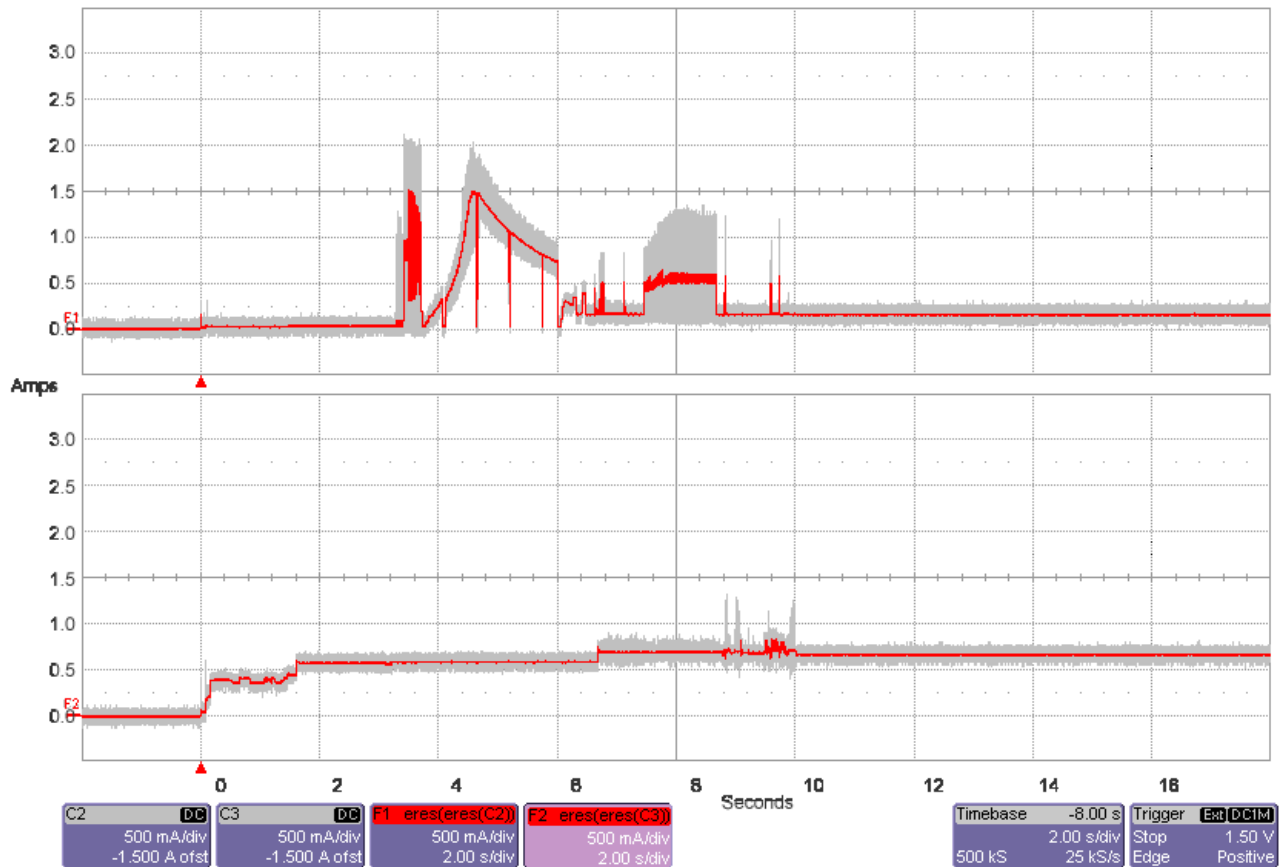

Figure 2. ST9146802SS current profile
- [3] See +12V current profile in Figure 2.